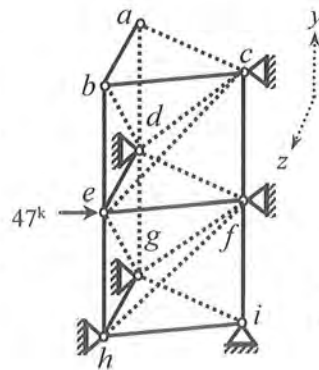

Fig.2
2. Ignore zero-force members of the space truss *abcdefghi* shown in Fig.2 and apply boundary conditions to formulate stiffness matrix and load vector. A force $X_e = 47 \text{ k}$ is applied on joint *e* in *X* direction.